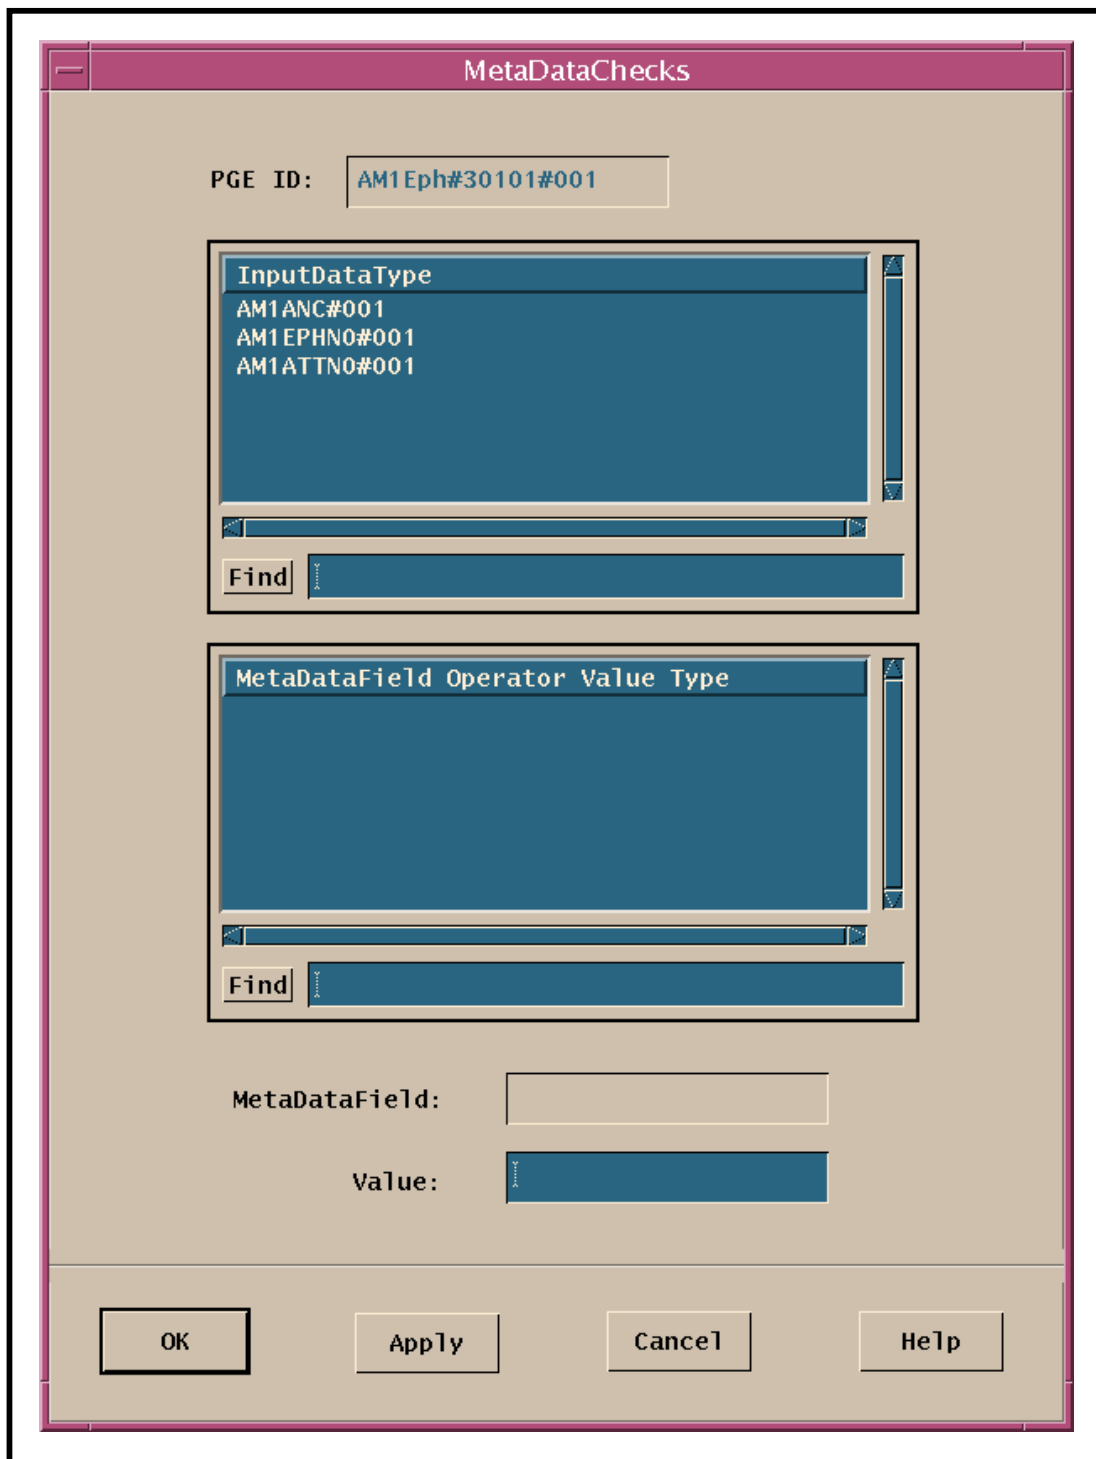

Figure 20. MetadataChecks GUI
- The **MetadataChecks** GUI page (Figure 20) is displayed.